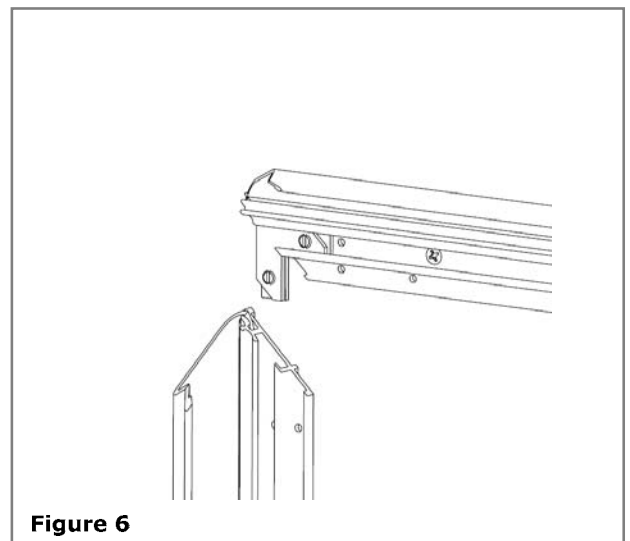

Figure 6
2. Each corner bracket pair consists of one plain bottom bracket and one top bracket with sets crews. Slide one pair into each end of the frame and advance the screw so that the brackets are held loosely in the groove. **See Figure 6.**